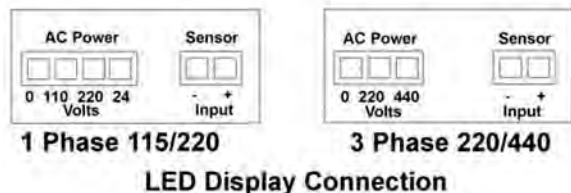

Figure 3
**NOTE:** If rewiring the J-2221VS or J-2223VS for alternate voltage, you must reconnect the wire on the LED display accordingly (Figure 3), in addition to changing the motor leads.